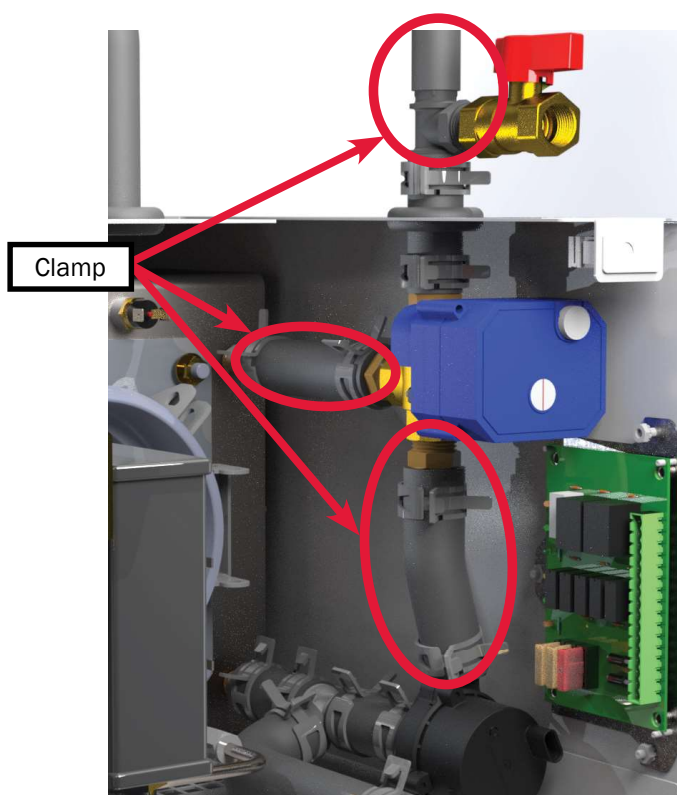

Figure 30
2. Use clamp hose pliers to pinch tubing surrounding the three-way valve as indicated in Figure 30.